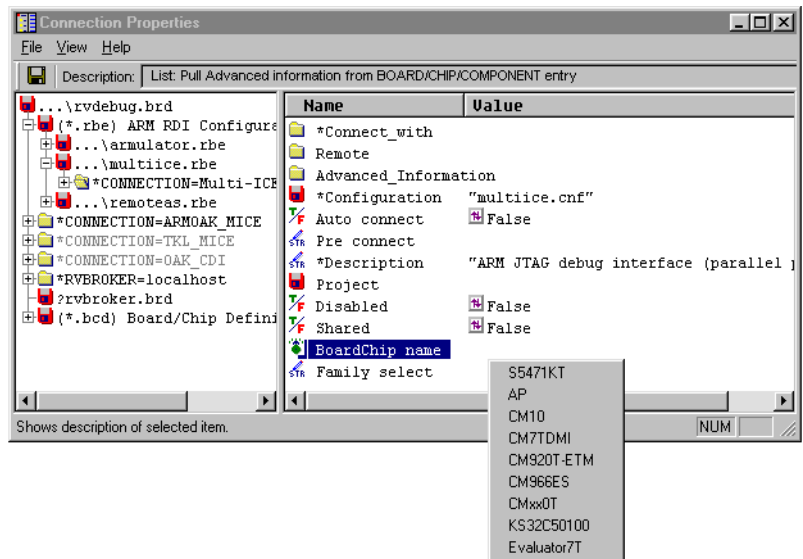

Figure 3-8 Linking a board
4. Left-click on the BoardChip_name again. This displays a context menu including a list of available .bcd files, shown in Figure 3-8.
4. Left-click on the `BoardChip_name` once more. A context menu is displayed, shown in Figure 3-8 on page 3-13.